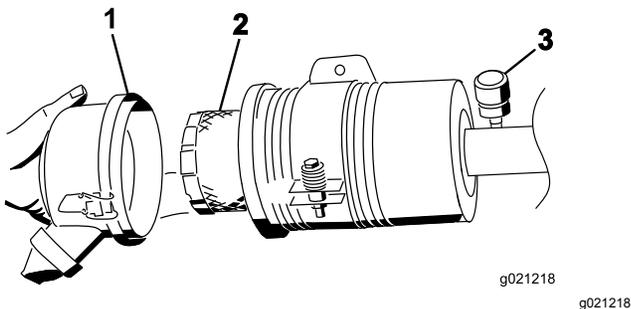

Figure 84
- Remove and replace the filter (Figure 84).